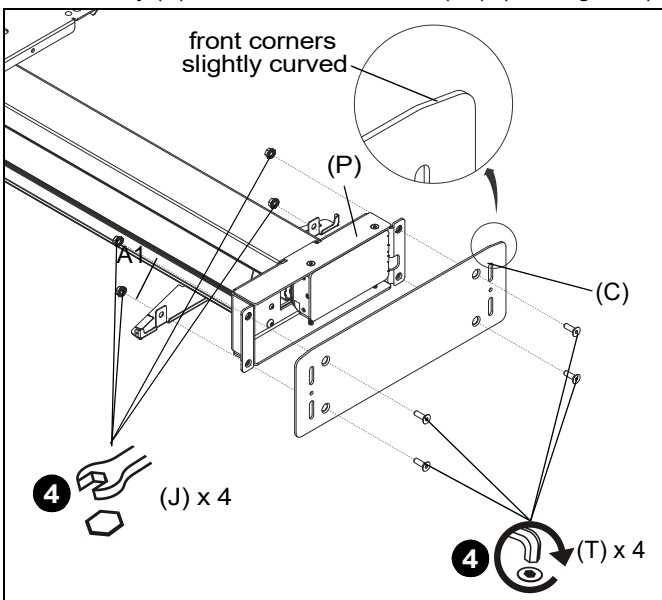

Figure 2
4. Use four 5/16-18 x 1" flat head cap screws (T) and four 5/16-18" hex nuts (J) to secure floor plate (C) to column assembly (P) and bottom back cover (A1). (See Figure 2)